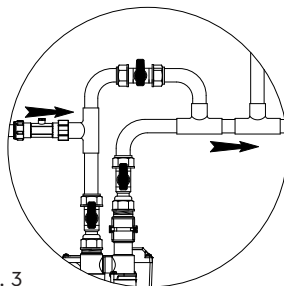

Fig. 3
- c) It is advisable to fit a bypass pipe and isolating valves. This will allow removal of the pump for maintenance and servicing, and ensure the water supply into the property is still available during that period (Fig. 3).